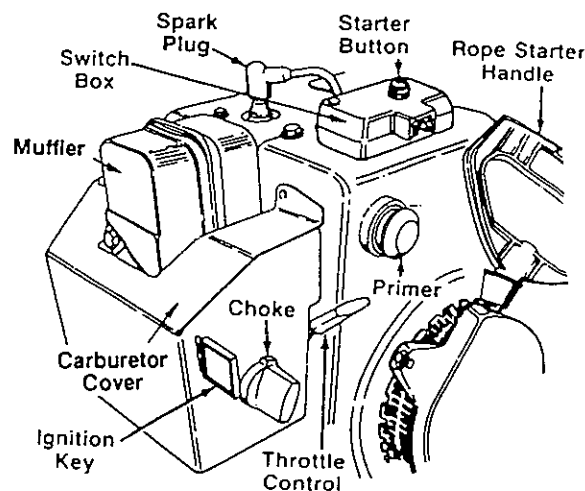

FIGURE 18
- Move throttle control up to FAST  position. Insert ignition key into slot. See figure 18. Be certain it snaps into place. Do not turn key.
- Push starter button to crank engine. See figure 18. As you crank the engine, move choke knob to FULL choke position.
- Push primer button two or three times. See figure 18.
- Grasp starter handle (see figure 18) and pull rope out slowly, until it pulls slightly harder. Let rope rewind slowly.